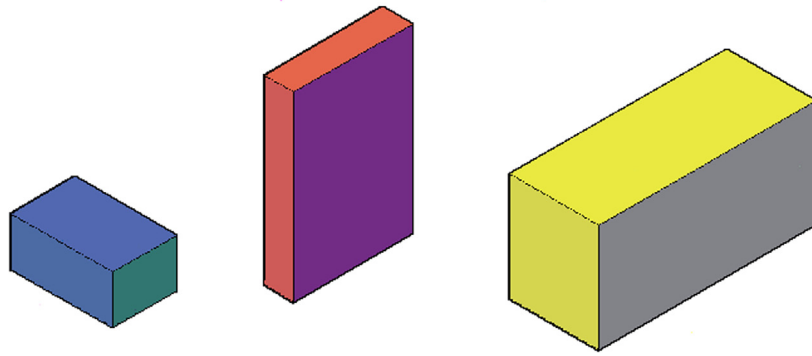

FIGURE 29.9
Step 1. First of all, create a few random blocks of any size, and shade and color them while in SW Isometric, as seen in Figure 29.9.